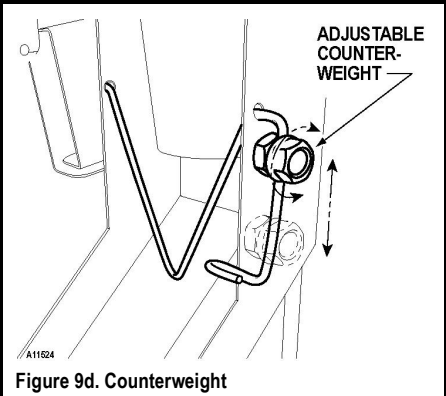

Figure 9d. Counterweight
- 4b. If the cup gets stuck at the counter-balance wire, loosen the counterweight and slide it up to lessen the weight against the cup. See **Figure 9d**. Repeat step 4.